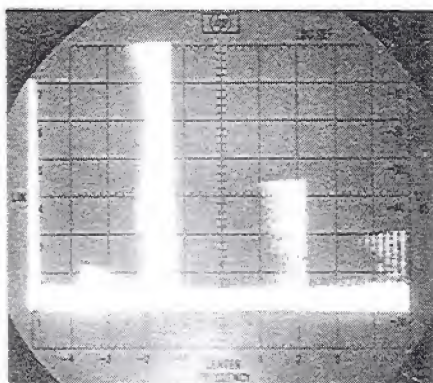

Figure 4-7. Typical Harmonic Distortion
5. Observe the "Test Analyzer" display for harmonic and spurious signals. A typical display is shown in Figure 4-7. The Tracking Generator fundamental signal is shown between the -2 and -1 graticule lines. The second harmonic is shown between the +1 and +2 lines with the third harmonic shown between the +4 and +5 lines. The amplitude of the second harmonic is approximately 36 dB below the fundamental. The third harmonic is down approximately 50 dB. A spurious signal with an amplitude of approximately -58 dBm is shown between the -4 and -3 graticule lines.